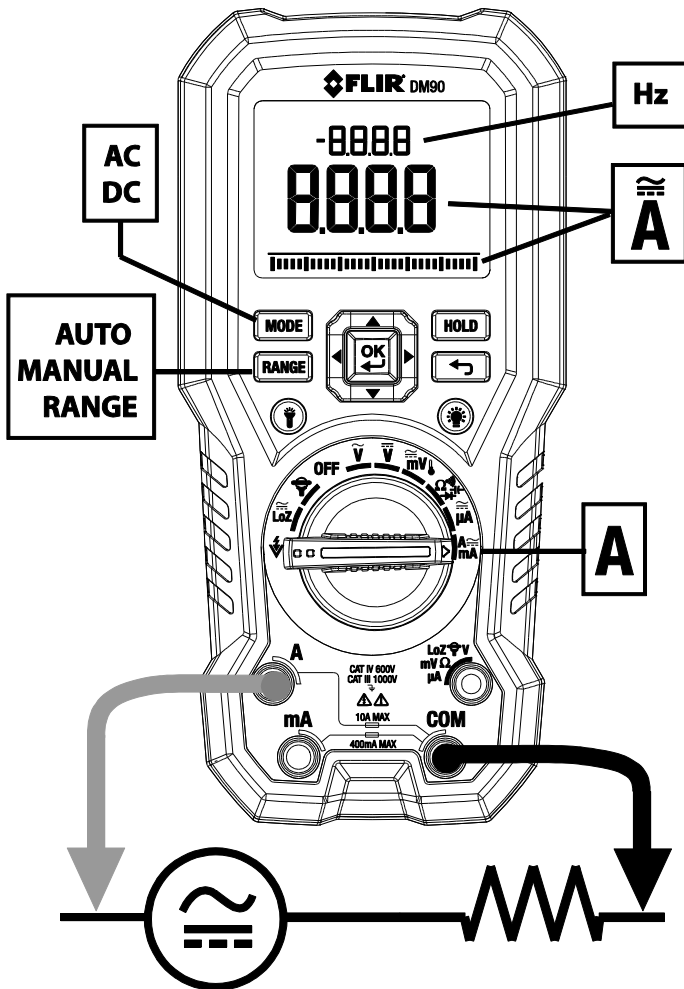

Fig. 5-8 High Current 'A' and Frequency Measurements
4. Connect the probe leads in series with the part in accordance with Figure 5.7 and Fig. 5-8 for 'A' measurements, Fig. 5-9 for mA measurements, or Fig. 5-10 for μ A measurements.